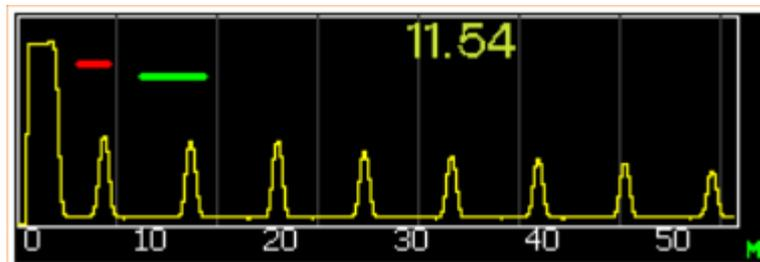

Figure 3.1 – A-scan appearance
3.2.1 The A-scan mode (Figure 3.1) is used for the test objects that has complex shape, made by casting, as well as for the test objects prone to severe corrosion.